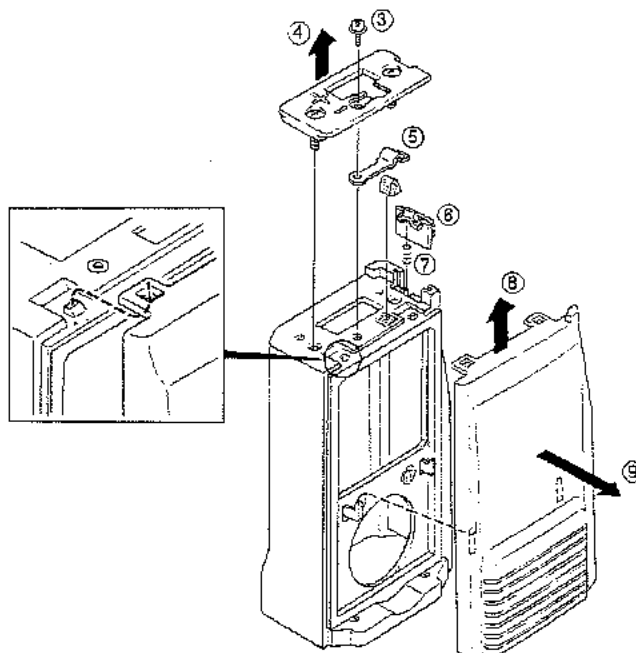

Fig. 6
2. Remove the one screw (N09-2053-05) holding the bottom plate (③), and remove the bottom plate (④). See Figure 6 for 2 to 6.
3. Remove the terminal (E23-0474-14) and cushion (G11-0617-04) (⑤).
4. Remove the release knob (⑥) and spring (G01-0867-04) (⑦).
Note: To remove the front half of the case from the rear half, push up the front panel in direction (⑧) shown in Figure 6 and remove it in direction (⑨).